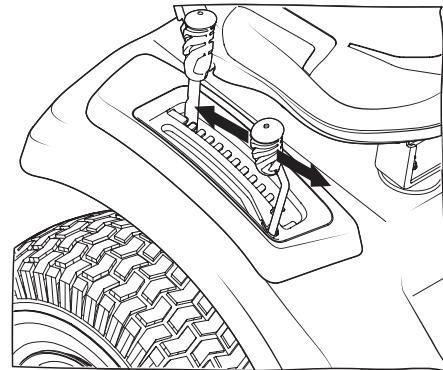

Figure 3-5
- Push the PTO handle forward into the engaged (ON) position. See Figure 3-5.